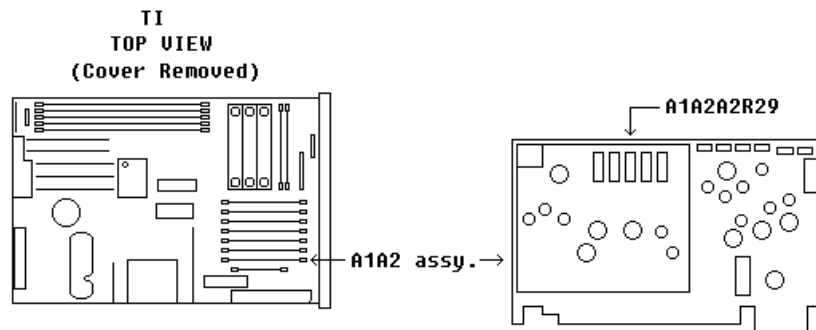
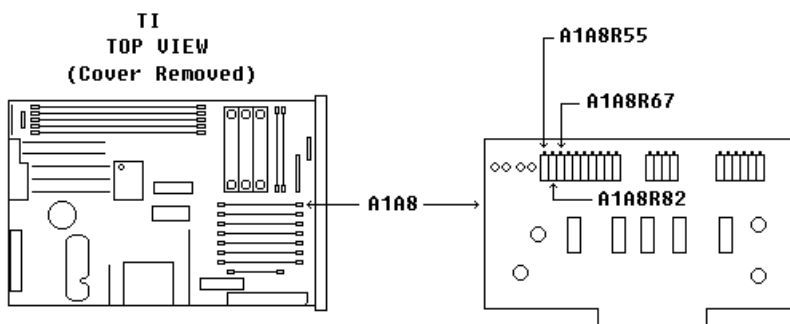

Figure 7. A1A2 board.
Figure 8. A1A8 board.
- (6) Press TI RCL 1.
- (7) Adjust A1A2A2R29 (fig. 7) for a measuring receiver indication of -3.0 dBm (R).
(8) Using **TUNE KNOB**, tune the test instrument from 2 to 6.6 GHz. Record minimum and maximum measuring receiver indications and frequencies where they occur.
(9) Adjust A1A8R55 (fig. 8) to reduce the difference between minimum/maximum power indications (R).
- (10) Using **TUNE KNOB**, tune the test instrument to 2 GHz.
- (11) Readjust A1A2A2R29 (fig. 7) for a measuring receiver indication of 3.0 dBm.
- (12) Tune the test instrument from 2 to 6.6 GHz. Verify that the output level stays within ± 1 dB of -3 dBm.
- (13) Repeat (8) through (12) above until level stays within 1 dB of -3 dBm or until no further improvement can be made.
- (14) Press TI **RCL 2**.
- (15) Using **TUNE KNOB**, tune the test instrument from 6.600002 to 12.99902 GHz. Record minimum and maximum measuring receiver indications and frequencies where they occur.
- (16) Adjust A1A8R82 (fig 8) to minimize difference between minimum and maximum power indications (R).
- (17) Press TI **SWEEP MODE OFF, FREQ INCR, 2, 0, 0**, and **MHz** keys.
- (18) Verify the measuring receiver indicates -3 dBm ± 0.2 dBm. Readjust A1A2A2R29 (fig. 7) as necessary for best compromise.
- (19) Using **TUNE KNOB**, tune the test instrument from 2 to 12.2 GHz. Verify that the difference between the minimum and maximum power indications are equal to or less than 3 dB.
- (20) Press TI **RCL** and **3** keys.
- (21) Using **TUNE KNOB**, tune the test instrument from 12.300003 to 17.59999901 GHz. Record minimum and maximum measuring receiver indications and frequencies where they occur.
(22) Adjust A1A8R67 (fig. 8) to minimize difference between minimum and maximum power indications (R).
(23) Press **TI SWEEP MODE OFF**, **FREQUENCY**, **2**, and **GHz** keys.
(24) Adjust A1A2A2R29 (fig. 7) for a measuring receiver indication of -3.0 dBm.